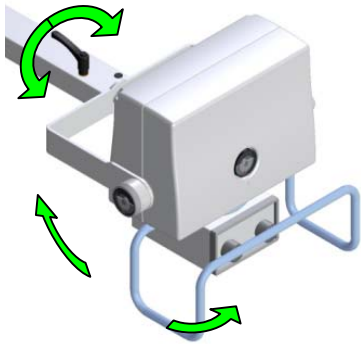

Figure 4
- Place the monobloc – collimator group vertically and activate its rotation safety lock (see Figure 4).